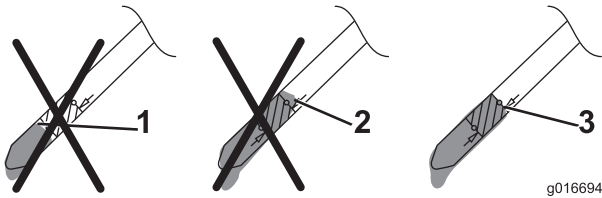

Figure 35
11. Remove the dipstick and read the oil level on the dipstick; refer to Figure 35.
- If the oil level is too low, add a small amount of oil **slowly** to the oil-fill tube, and then repeat steps 9 through 11 until the oil level is correct as shown in Figure 35.